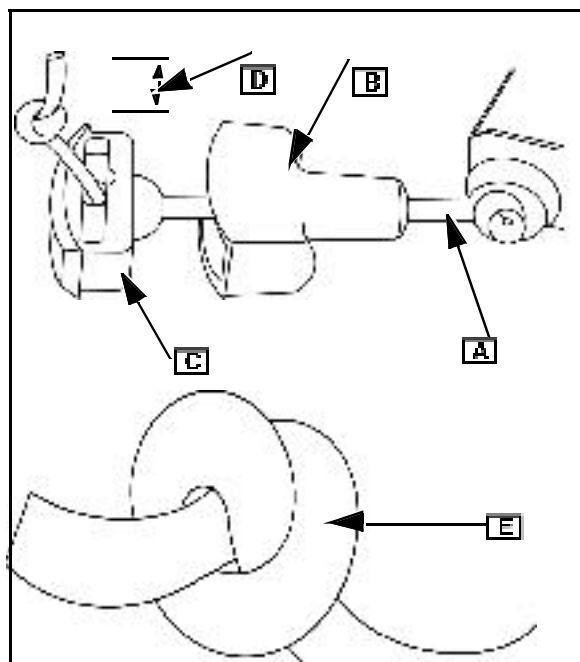

Fig. 3
2. Insert rope (A) through starter handle (B) and starter handle insert (C).
3. Tie knot on end of rope, leaving approximately 1/2 in. (13 mm) ([D] Fig. 3) of rope left. Pull knot into handle insert and pull insert into starter handle.
**CAUTION:** Knot must be an overhand knot (E) so it will not pull through pulley, hole in handle and/or insert.
9. Insert rope and tie overhand knot. See SECTION 8- Fig. 3.